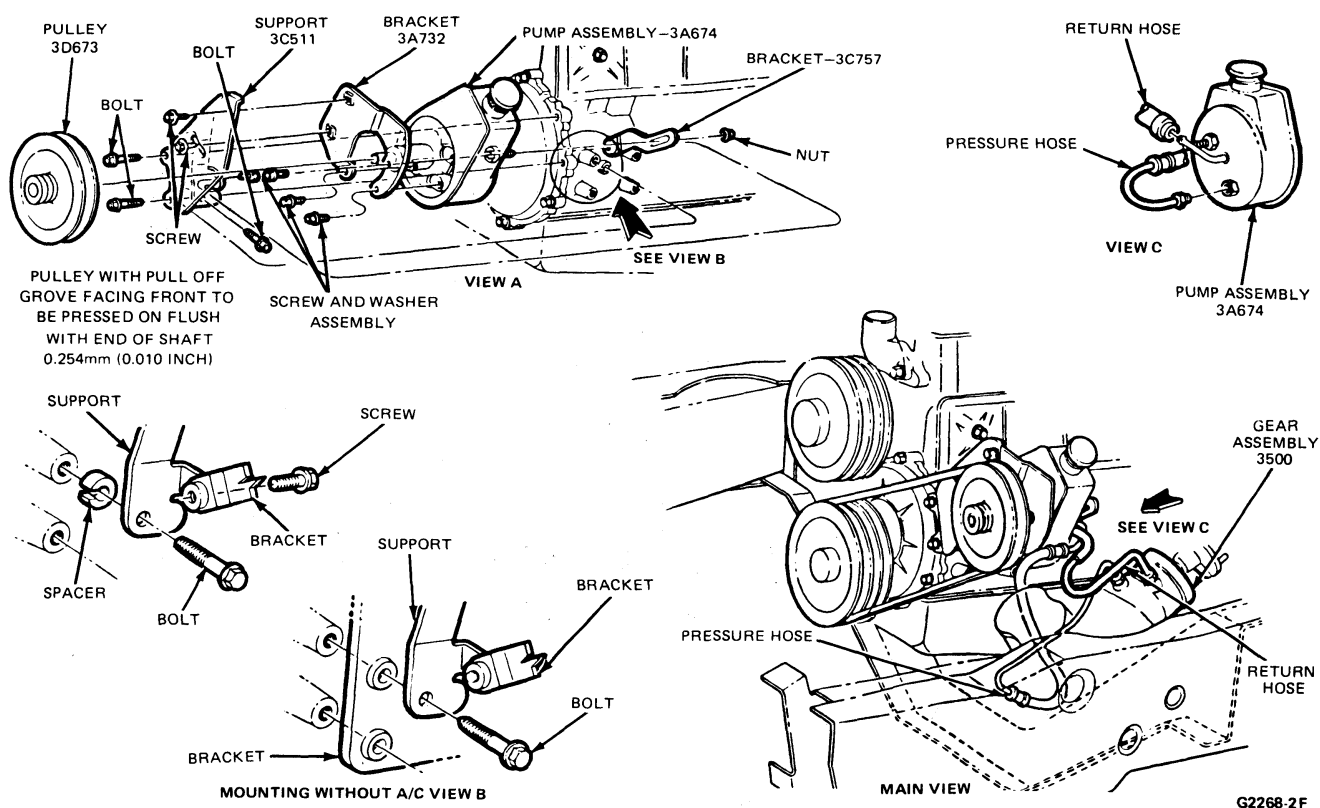

FIG. 3 Power Steering Pump Installation—4.9L (300 CID) I-6 Engine
4. Tighten the adjusting bolt until the correct tension is acquired, on the 4.9L (300 CID) I-6 Engine (Fig. 3), on the 7.5L (460 CID) V-8 and the 5.8L (351 CID) V-8 engine. Pry between the pump adjustment bracket and the engine block until correct tension is achieved. While still holding this tension, tighten the adjusting bolt.